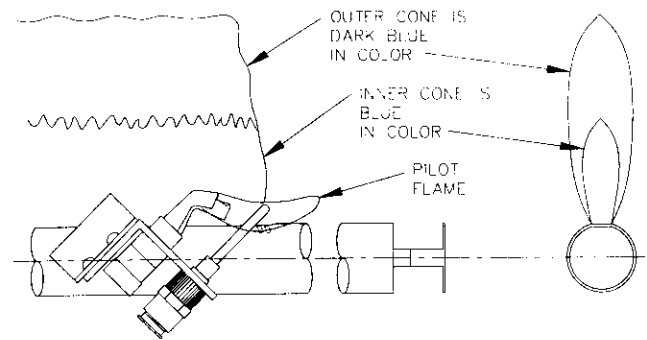

Figure 28: Standing Pilot and Main Burner Flame
3. Check the pilot and main burner flame. See Figures 28 and 29. The pilot should provide a steady flame enveloping $3/8$ " to $1/2$ " of the flame sensor. If required, adjust the pilot as stated in the gas valve manufacturer's instructions. The main burner flame inner cone should be approximately $1-1/2$ " high and should have a very sharp, blue color characteristic.